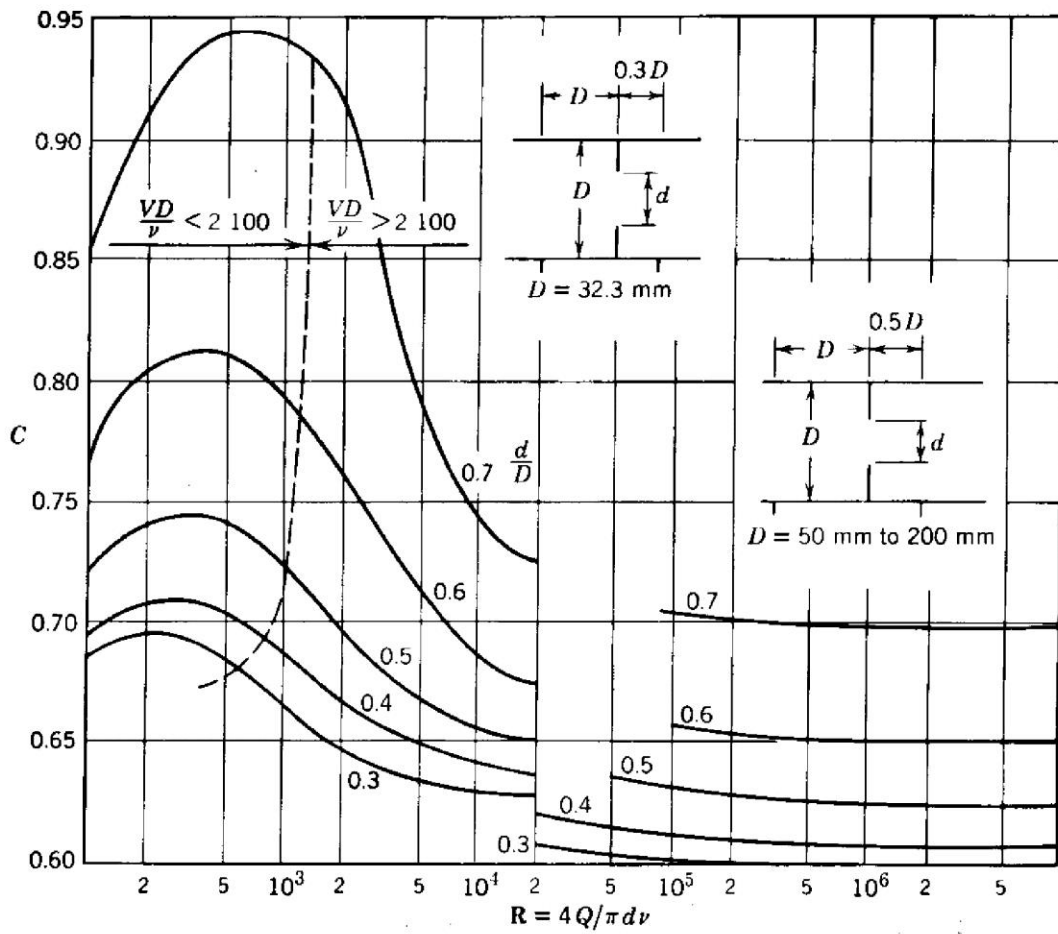

Fig. 11.26 Orifice meter coefficients.29
4. Plot  $C$  vs.  $Re$  on Figure 11.26 on page 23, using  $C = \frac{C_v C_C}{\sqrt{1 - C_C^2 \left( \frac{A_2}{A_1} \right)^2}}$